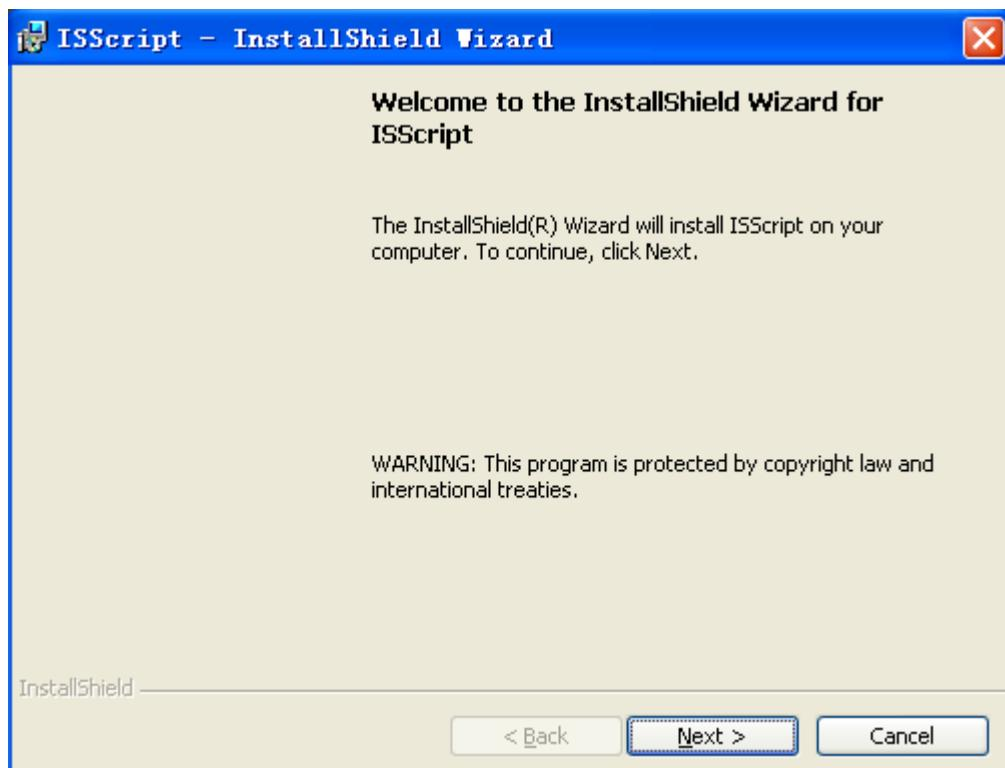

Fig. 9
- g) File "ISScript8.msi" must be installed also, press button "Next" to begin setup, please refer to Fig. 9;